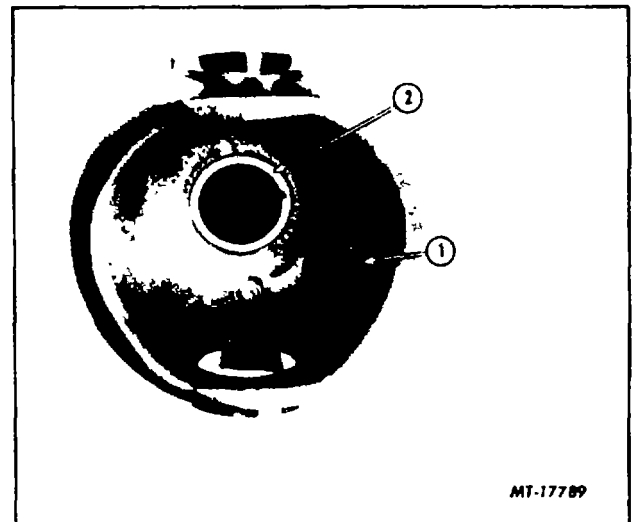

Fig. 13. Axle Shaft Oil Seal
- To replace axle shaft oil seal (Fig. 13) pry out old seal from bore of axle housing and discard. Install new seal. Seal must contact counterbore.